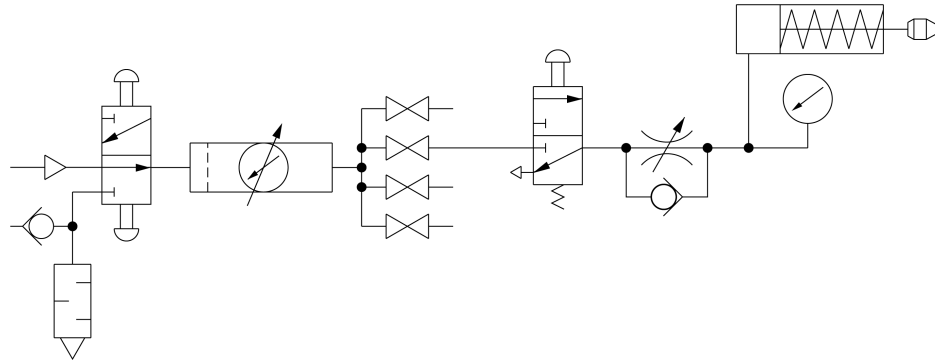

Figure 3-13. Schematic Diagram of the Meter-in Circuit.
- ☐ 2. Connect the circuit shown in Figure 3-13.